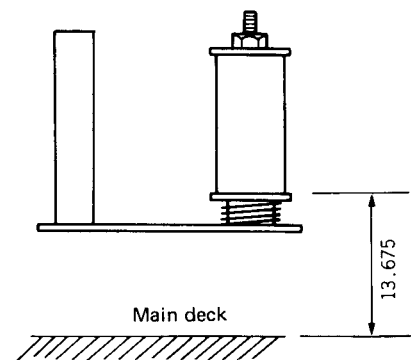

Fig. 2-6-1 Impedance roller height
1. For a reference, relative position between the main deck and the impedance roller is shown in Fig. 2-6-1. This is a reference height of the supply side (for the tape entrance, etc.).